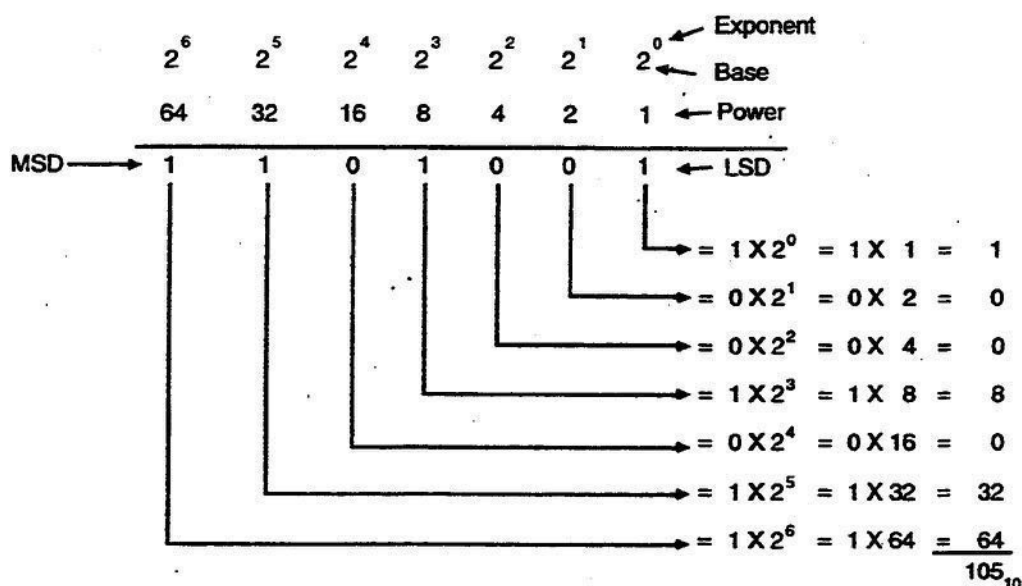

Figure 1-3. Binary PLACE value.
- (1) *Base (radix) line.* The first base entry should always be made at the far right and should be the base with an exponent of (0). Base columns proceed from there to the left, increasing in power, for as many columns as are needed.
- (2) *Power line.* This line also starts at the right. The power indicates the value of any digits in the column below that power. The first entry is *always* "1." The second entry, under the base with an exponent of (1), is *always* equal to the base. All entries after that are equal to the power of the previous power entry multiplied by the base.
- (3) *Number line.* The digits on this line represent the total numerical value of each particular column. Looking at figure 1-3, note there is a 1 in the  $2^3$  column. This digit represents the numerical value of 8. The most significant digit (MSD) is always the digit on the far left, while the least significant digit (LSD) is the digit on the far right.
**Decimal-to-binary conversion.** When we used the powers of two in our previous lesson, we were actually converting our binary numbers to their decimal equivalents. This method of conversion works for any binary number. A PLACE value chart such as figures 1-3 and 1-4 can also be used to perform these conversions. Let's use figure 1-4 to convert  $142_{10}$  to its binary equivalent using the following steps: